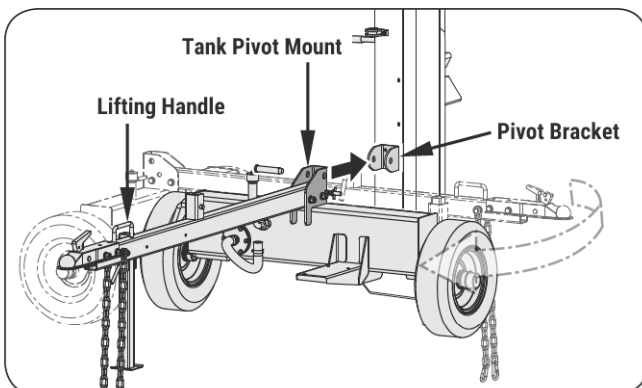

Figure 8a
1. Make sure a helper holds on to the beam to keep it from falling. Reposition the beam and reservoir so the back of the tank is facing the vertical beam as shown in **Figure 8a**.